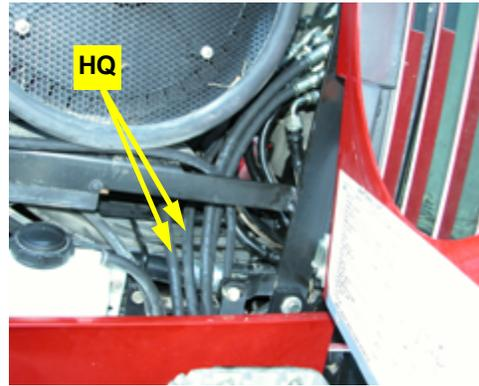

Figure 9b: Routed tank and pressure hoses
- b. Route the **T** and **P** hoses down to the hydraulic steering block (Figure 9b). The ends of the hoses with the large o-ring flat face elbows attach to the run-tees (at the orbital) and the hose ends with the smaller straight fittings connect to the hydraulic steering block.